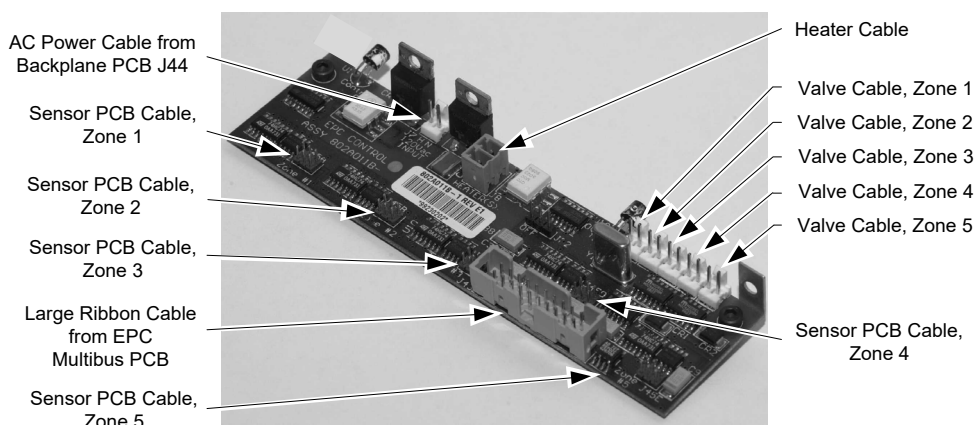

Fig. 6.9. EPC Control PCB Cabling
- Unplug the large ribbon cable from the Control PCB and fold it back to your left and out of the way (see Figure 6.9).
4. Unplug the large ribbon cable from the Control PCB and fold it back to the left and out of the way (see Figure 6.9).